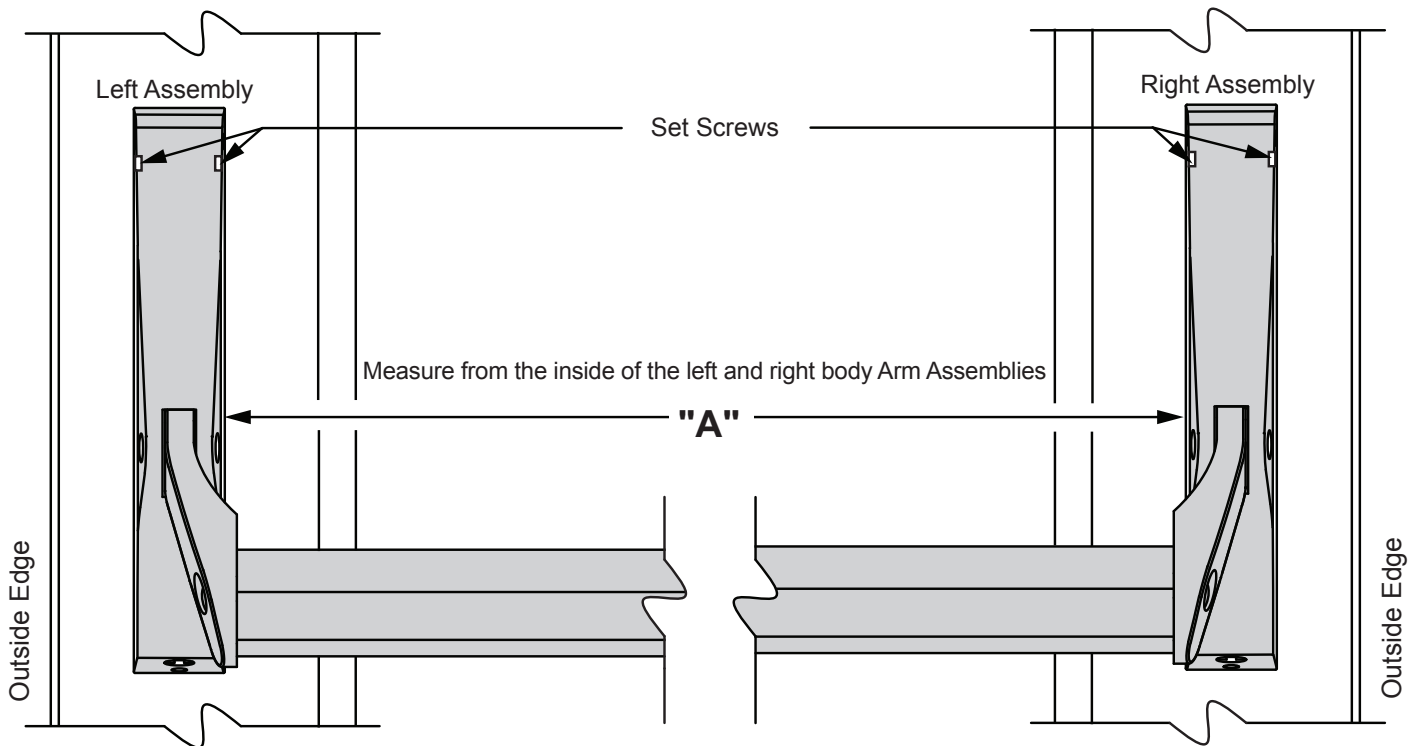

FIG. 16
1. Measure the Panic Bar from the inside edge of the left side body arm assembly to the inside edge of the right side body arm assembly as shown in (Fig. 16).
2. Cut and debur the Panic Bar to dimension "A" (Fig. 16).